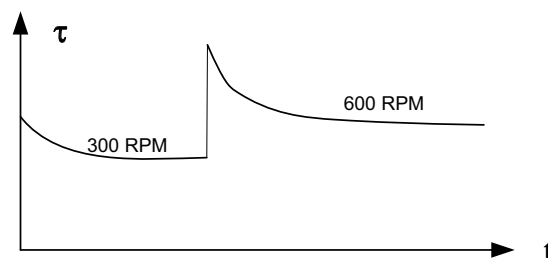

Figure 1-1: Behavior of thixotropic fluids after stillstand (left) and at constant shear rates.
- The fluid displays a reduction in viscosity over time at constant shear rate as indicated in Figure 1-1.